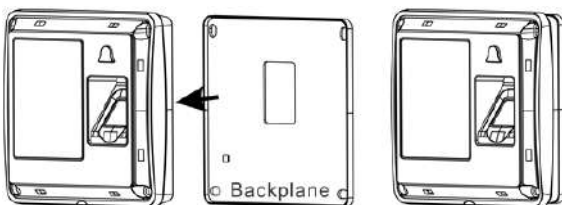

Figure 4
2.1.3 That the backing plate bonded to the bottom cover with the device; insert the terminal blocks into the corresponding interface of the device (Figure 4);